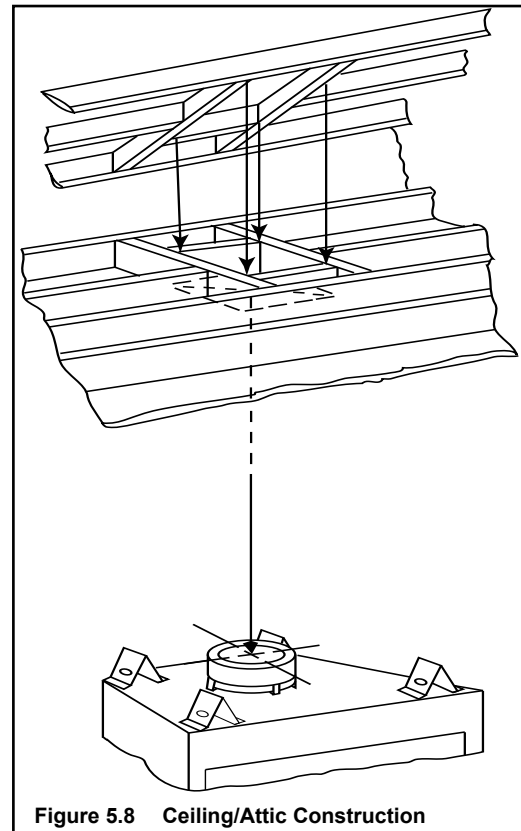

Figure 5.8 Ceiling/Attic Construction
► Figure 5.8 Install Attic Insulation Shield (firestop below ceiling)
- Refer to Figure 5.8.